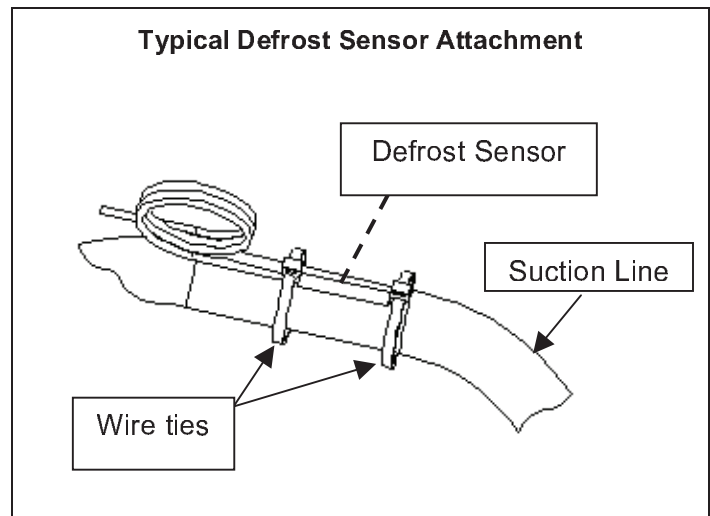

Figure 2
- If one (1) insulation wrap is found at sensor, this indicates the sensor and TXV bulb are mounted together...do not disturb this installation. Rather, cut the sensor wires as close as possible to the sensor, removing the wires, but leaving the failed sensor and wrap in place. Then, using two (2) wire ties, and as close as possible to original sensor location, and on a straight section of suction line, strap new probe snugly to suction tube. See Figure 2 for an example of a correctly attached defrost sensor. Cover new sensor with supplied insulation wrap; secure wrap with two (2) wire ties.
- If two (2) insulation wrappers are found in the sensor probe area, remove the insulation surrounding the probe and suction line; remove the failed probe and associated wires. Then, using two (2) wire ties, and as close as possible to original sensor location, and on a straight section of suction line, strap new probe snugly to suction tube. See Figure 2 for an example of a correctly attached defrost sensor. Cover new sensor with supplied insulation wrap; secure wrap with two (2) wire ties.